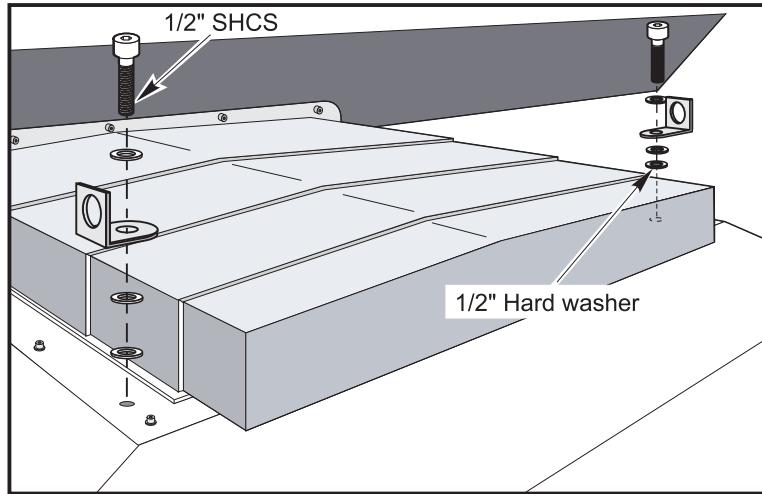

Fig. 1.9-7 Lifting bracket mounting location for VF-5.
1. Install the lifting brackets with (2) 1/2" -13 SHCS and (2) 1/2" hard washers, [(2) washers under bracket and (1) above bracket], to the base as shown in Figure 1.9-7. Tighten Securely.